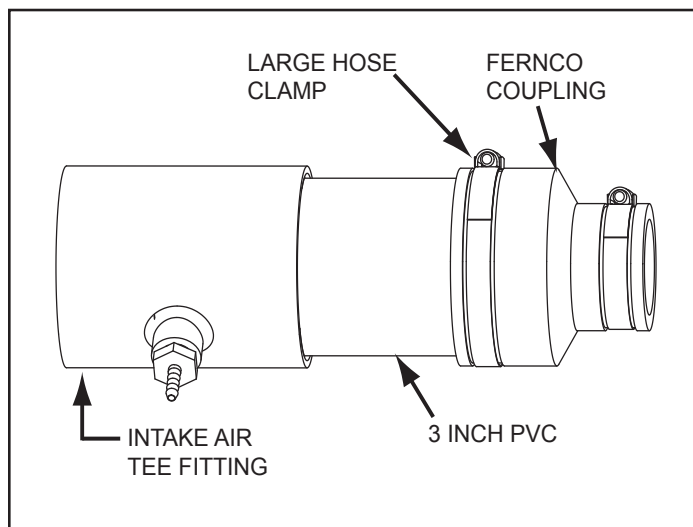

Figure 16. Intake Air Connection Pipe
3. Loosen the large hose clamp on the Fernco coupling that connects the intake air connection pipe to the Combustion blower. See *Figure 16*.